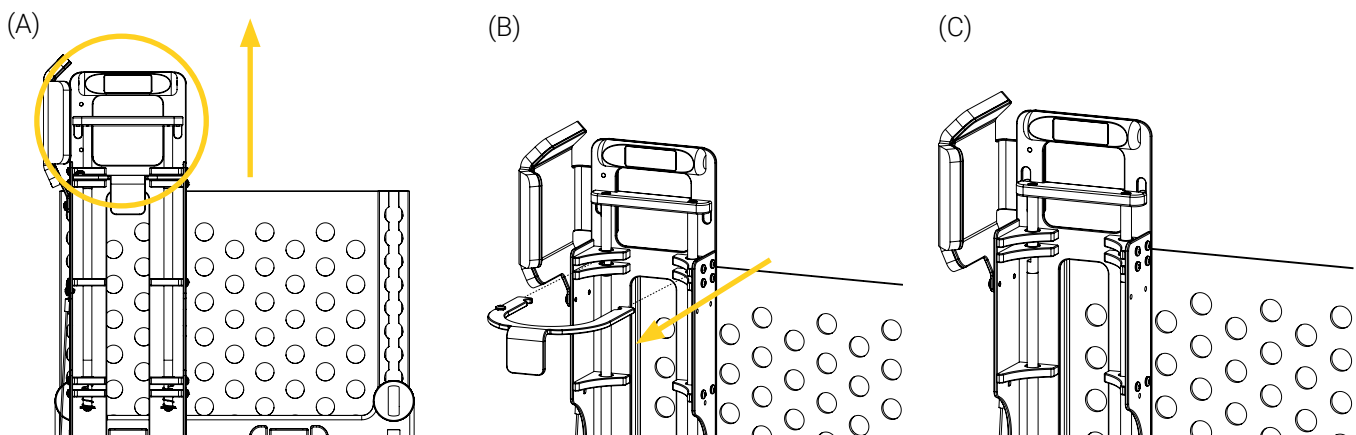

Figure 6: Removing the u-clamp
2. Pull and hold the quick release pull handle to deactivate the locking mechanism (Figure 6 A) and pull out the u-clamp (Figure 6 B), then let go of the quick release pull handle (Figure 6 C).